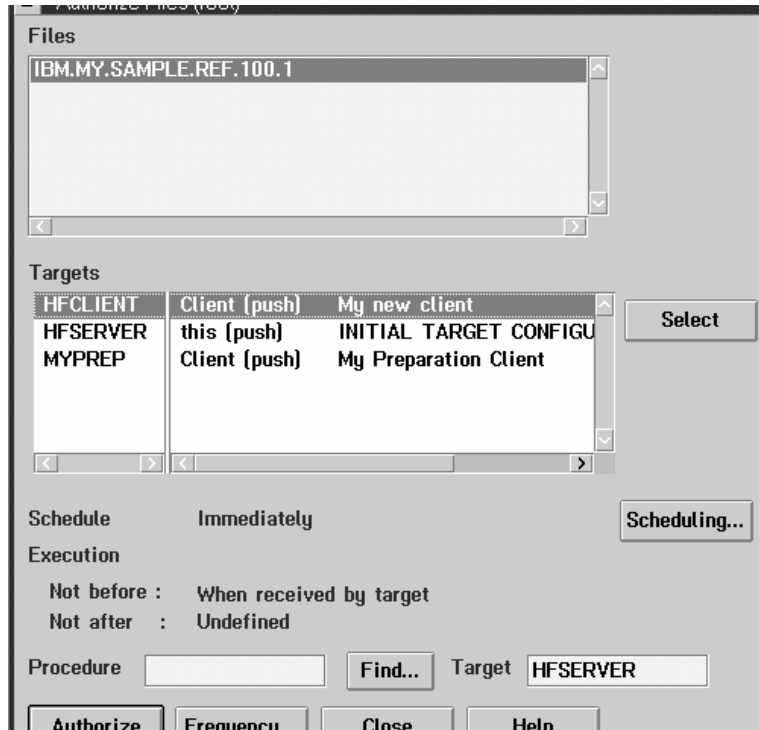

Figure 133. Authorize files window
- 10 Select **Authorize...** from the **Selected** pull-down. The Authorize Files window is displayed, as shown in Figure 133 on page 210